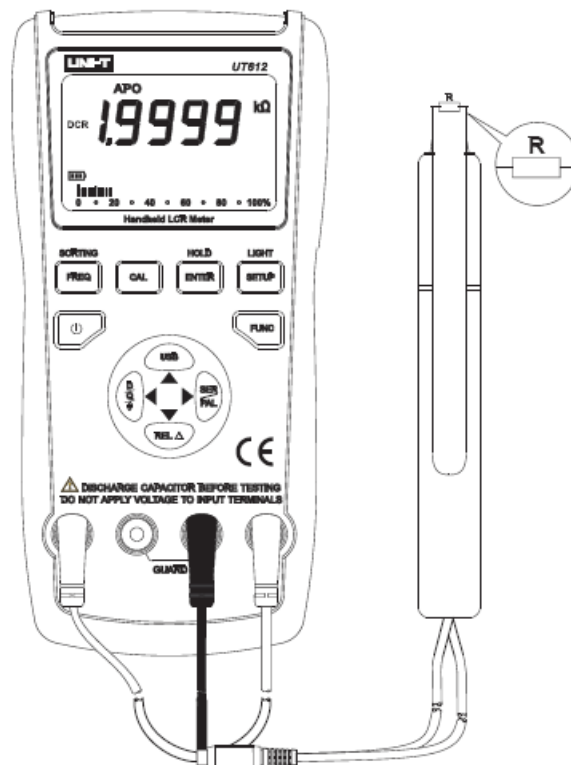

Figure 13
3. Insert the resistor into input terminals or connect the resistor to the meter using the test clamp(See Figure 13).